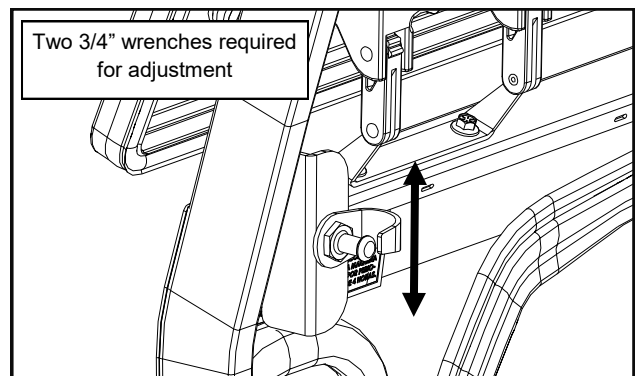

Fig. 18.2a (door striker pin adjustment)
- Adjust the striker pin on the sideframe vertically - See fig. 18.2a